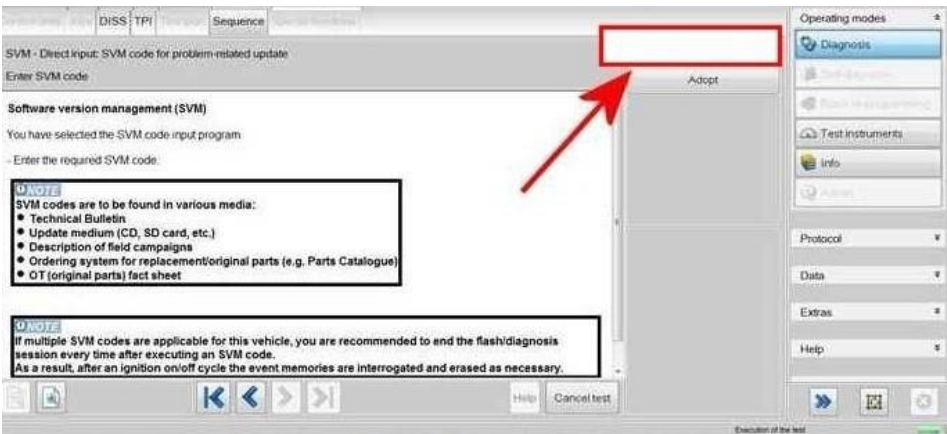

Figure 6
9) Referring to Figure 6 - Enter the SVM code 370WAD01